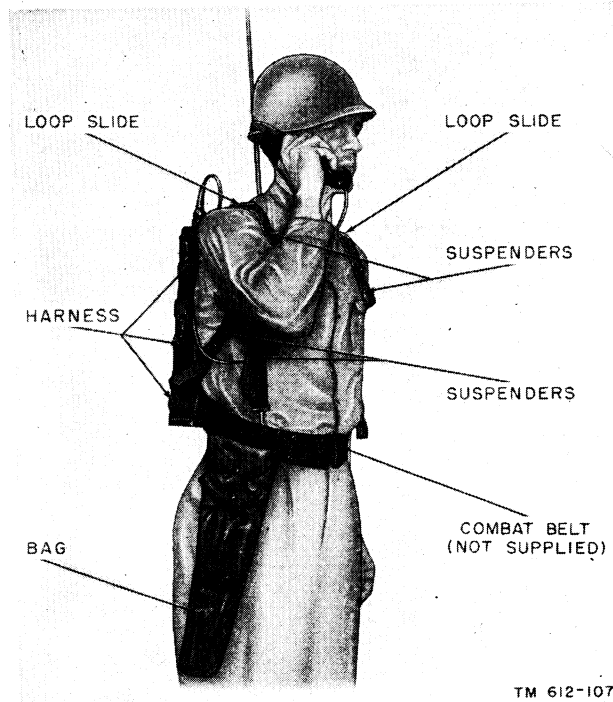

Figure 12. Radio Sets AN/PRC-8, -9, and -10, Carrying Harness ST-120/PR and Suspender Belt M-1945, side view.
f. **ATTACHING CARRYING HARNESS TO SUSPENDER BELT M-1945** (figs. 12 and 13). Clip the suspenders to a combat belt (not supplied) and adjust them to fit comfortably. The single clip ends go to the rear and the double clip ends go to the front. On the front, clip the two center clips to the combat belt and adjust the suspenders to fit. Remove the assembled suspenders and combat belt and fasten the wide harness straps through the loop slides, one on each suspender, so that the radio set carries well up on the back of the operator. Cloth guides on each suspender permit folding up the excess length of the wide straps. Clip the remaining clips to the rings on each side of the bottom strap of the harness. Put on the completed assembly and adjust for maximum comfort. The radio set is now ready for pack operation.
g. ATTACHING BAG CW-216/PR (figs. 12 and 13). Attach the bag to the combat belt where it is convenient to reach, since the handset and unused items of the equipment are carried inside.